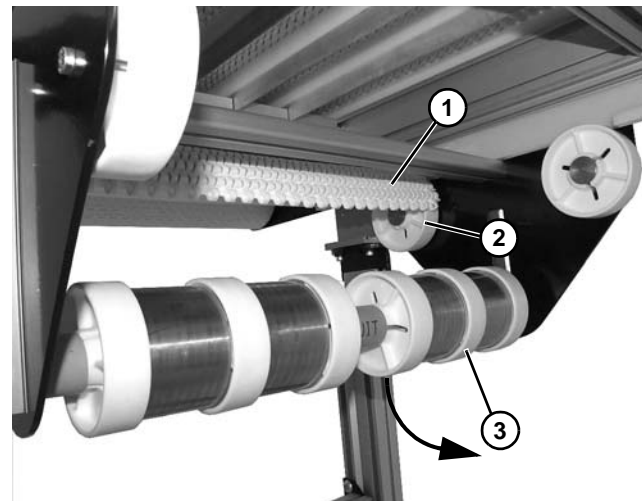

Figure 21
5. Weighted Take-Up: Wrap belt (Figure 21, item 1) over pucks (Figure 21, item 2) and around bottom of weighted shaft (Figure 21, item 3).